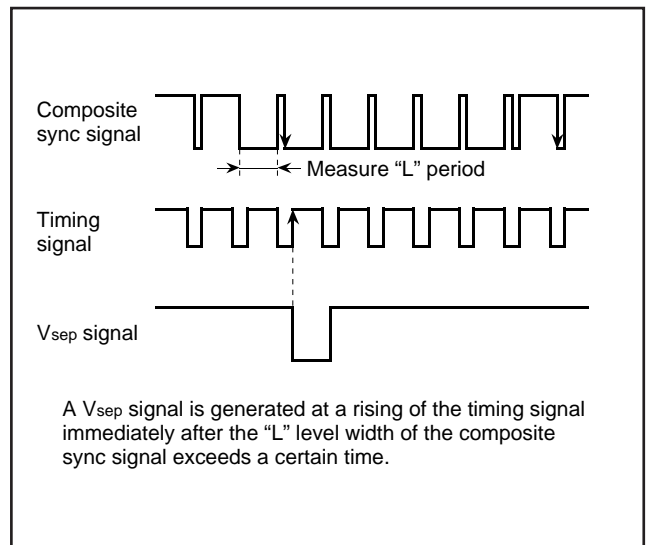

Fig. 33. Vsep Generating Timing (method 2)
- Method 2 The "L" level width of the composite sync signal is measured. If this width exceeds a certain time, it is detected whether a falling of the composite sync signal exits or not in the "L" level period of the timing signal immediately after this "L" level. If a falling exists, a Vsep signal is generated in synchronization with the rising of the timing signal (refer to Figure 33).
Figure 33 shows a Vsep generating timing. The timing signal shown in the figure is generated from the reference clock which the timing generating circuit outputs.